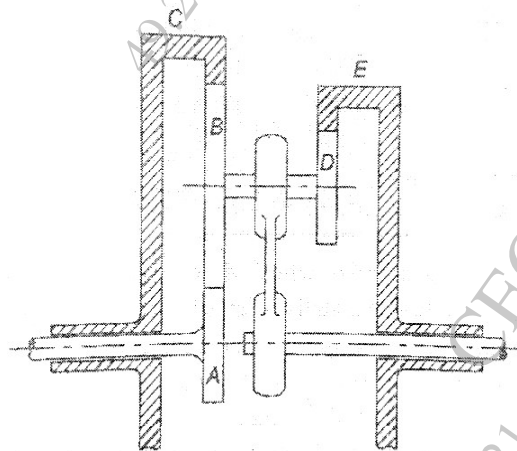

Figure.1
- Q4)** Figure.1 shows an epicyclic gear train in which driving gear A has 20 teeth, the fixed annular gear C has 150 teeth and the ratio of teeth in gears D and E is 21:50. If 2 kW of power at a speed of 800 rpm is supplied to the gear A, determine the speed and the direction of rotation of gear E. Also, find the fixing torque required at the gear C. [10]